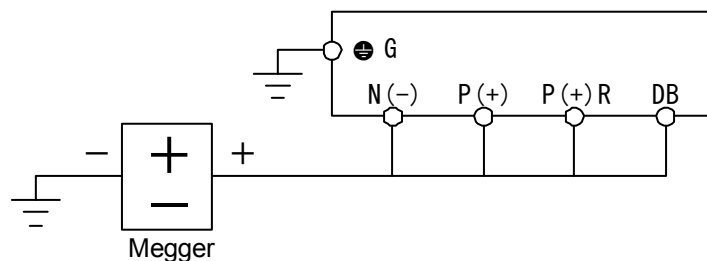

Fig. 5-3-1 Megger test
- ① Use a 500V DC type megger and isolate the main power supply before commencing measurement.
- ② If the test voltage is applicable to the control circuit, remove all connection cables to the control circuit.
- ③ Connect the main circuit terminals using common cables as shown in Fig. 5-3-1.
- ④ Execute the megger test only between the common cables connected to the main circuit and the ground (terminal  $\ominus$  G).
- ⑤ A megger indicating  $5M\Omega$  or more is normal. (This is the value measured with a DB unit only.)